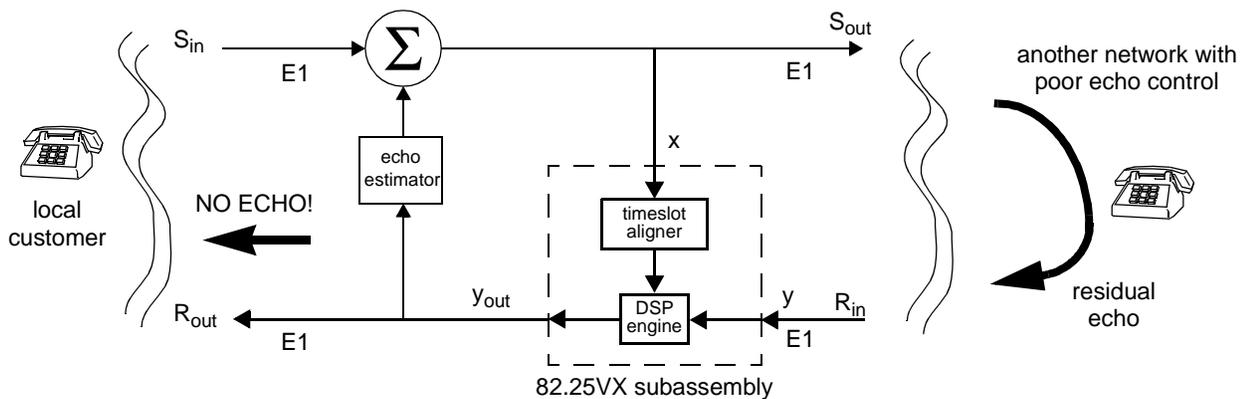

Figure 2-4 LDP and its relation to echo canceller orientation
- 2.18 Figure 2-4 illustrates the location of an echo canceller equipped with LDP in a long-distance network.